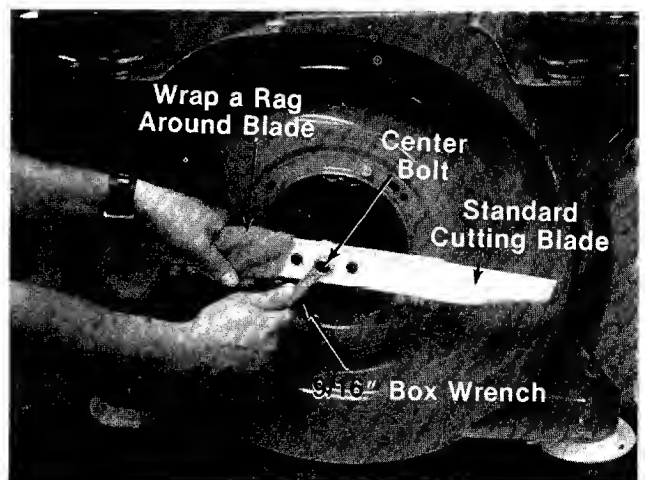

FIGURE 12.
3. Install the standard cutting blade by replacing the center bolt and lock washer. Tighten securely. Again, hold the blade with a rag for safety. See figure 12.